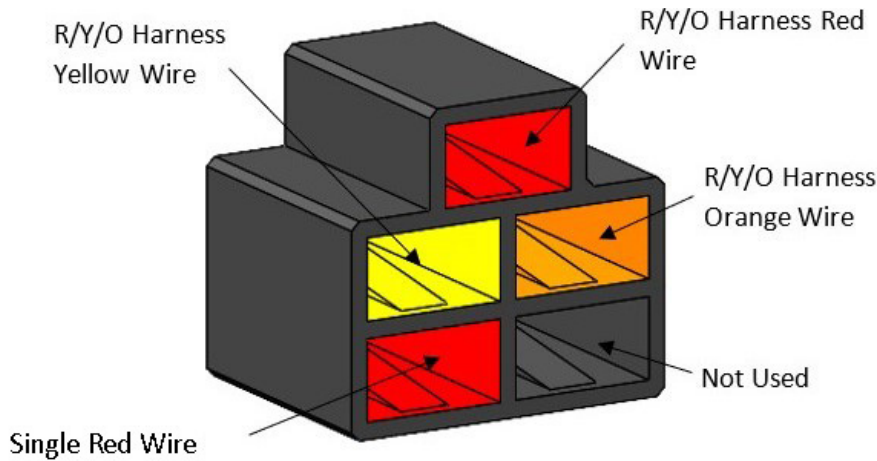

FIGURE 6
26. Locate the 36" Wiring Harness and ensure the wires are correctly connected to the 5-Pin Black Connector as shown in *FIGURE 6* and the 4-Pin White Connector as shown in *FIGURE 7*.